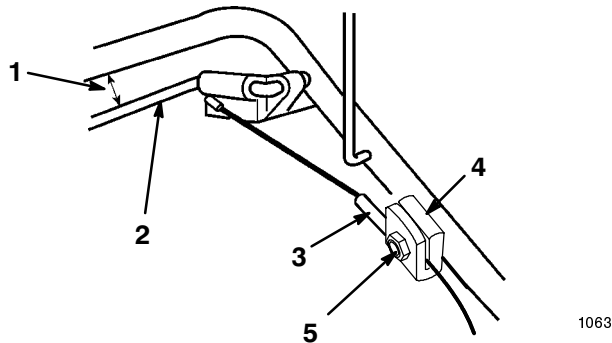

Figure 29
1. Loosen the nut on the cable support (Fig. 29).
2. Hold the self-propel drive bail 1 to 1 1/2 in. (25 to 38 mm) from the handle (Fig. 29).